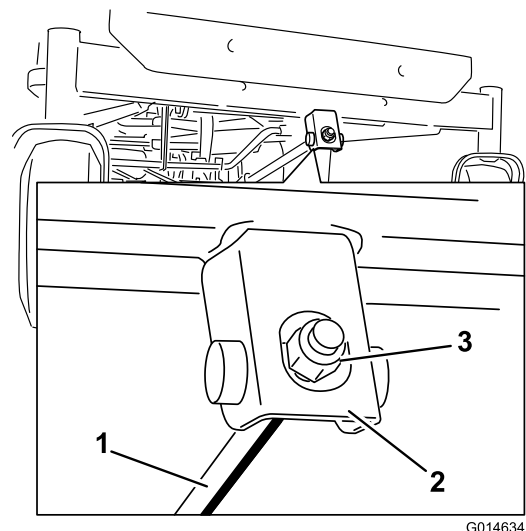

Figure 65
6. To adjust the front-to-rear blade slope, rotate the adjustment nut in the front of the mower (Figure 65).